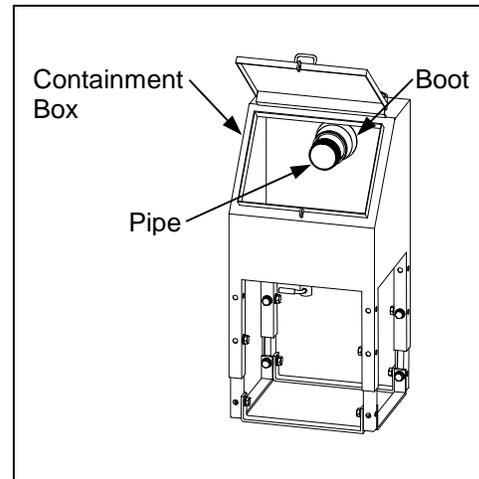

Figure 4
5. Place the spill container in the desired location and, to assure a tight fit to the pipe, tighten the stainless steel clamp on the nitrile boot. (See Figure 4.)